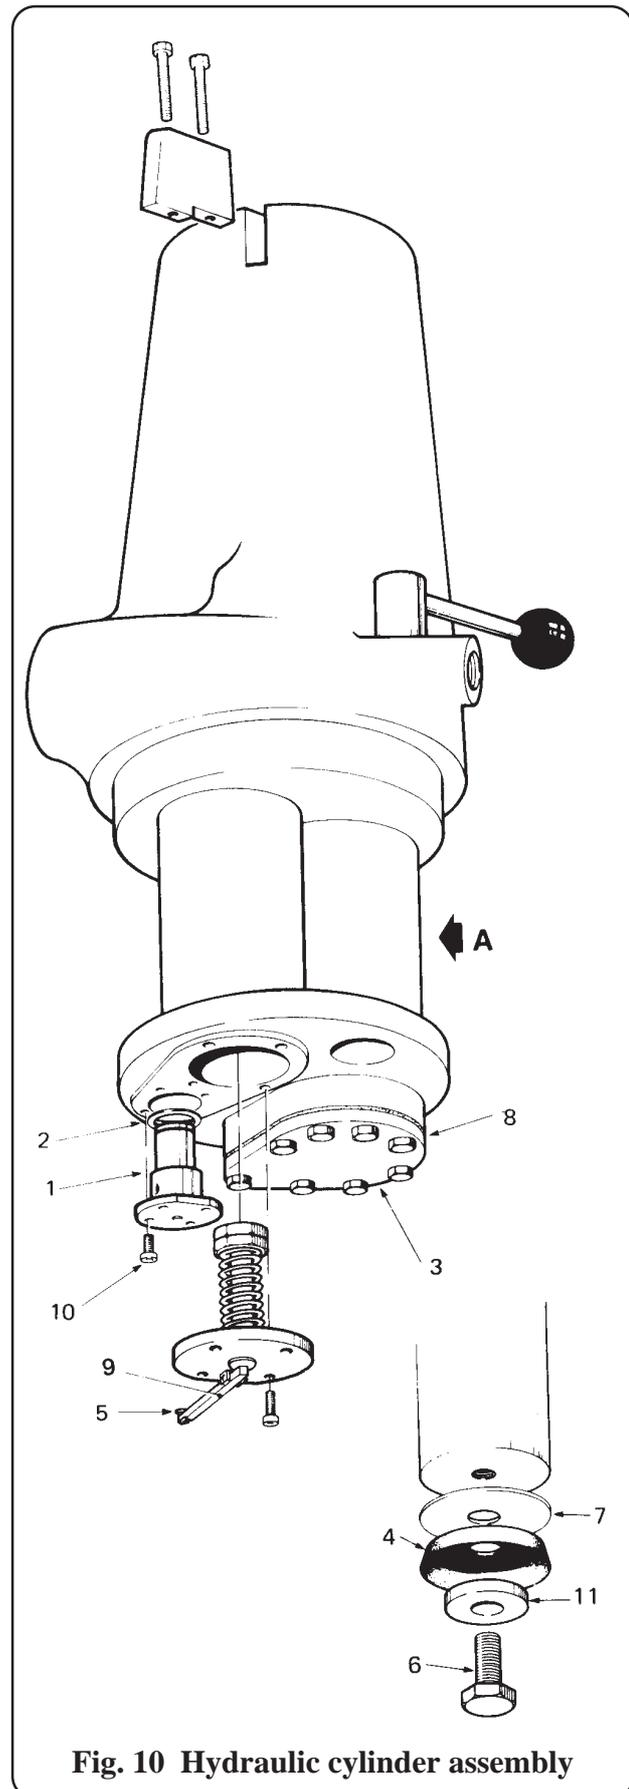

Fig. 10 Hydraulic cylinder assembly
4.24 If normal operation of the height control pedal fails to raise the table with the pedal travelling through its full stroke, the fault is probably due to the presence of dirt in the ball valve, (1) Fig. 10 of the hydraulic cylinder. It is often possible to clear this obstruction by vigorously operating the height control pedal. If
- Condition of ball valve jointing washer (2) Fig. 10. If faulty, replace it (see section 4.33).
- Secureness of ram cover plate (3) Fig. 10. If it is loose, re-tighten it.
- Efficiency of ball valve (1) Fig. 10. If blocked or jammed, disassemble and clean it, (see section 4.31). If the seating of the larger (spring-loaded) ball has been damaged, replace the complete valve.
- Condition of ram cup washer (4) Fig. 10. If worn or chipped, replace it (see section 4.32).
Replacing ram cup washer (Fig. 10)
Removing and cleaning ball valve (Fig. 10)